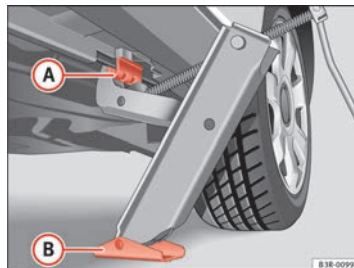

Fig. 195 Changing the wheel: Jack
- Align the jack so that the arm of the jack fits on the rib under the door sill ⇒ **fig. 195 A** and the movable base plate of the jack **B** is flat on the ground.